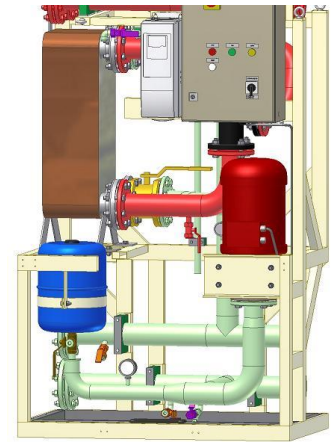

Figure 5.1-10
- Valves V161...V162 open (violet colour in Figure 5.1-10)
- Valve V160 lever down (brown colour in Figure 5.1-10)
- Valve V140 closed (yellow colour in Figure 5.1-10)
- Valves V230, V232 closed (orange colour in Figure 5.1-10)